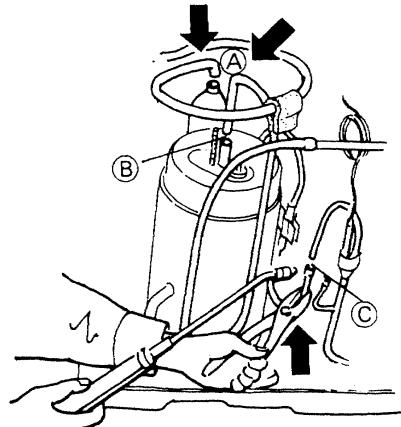

Fig. D-15
- 2) Unbraze the joints on the compressor discharge tube (B), then pull free with pliers.
- 3) Unbraze the auxiliary pipe (C) connected to the liquid injection tube. Fig. D-15